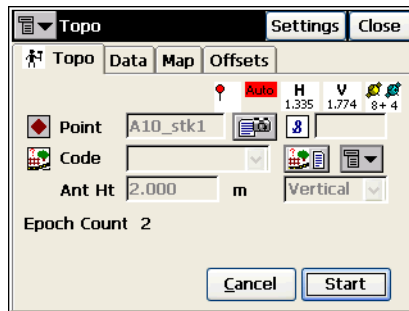

Figure 5-36. Topo – Start
- **Start**: starts the survey process. After pressing, the button changes its name to **Accept** and a new button **Cancel** appears along with the counter of the epochs collected (Figure 5-36).